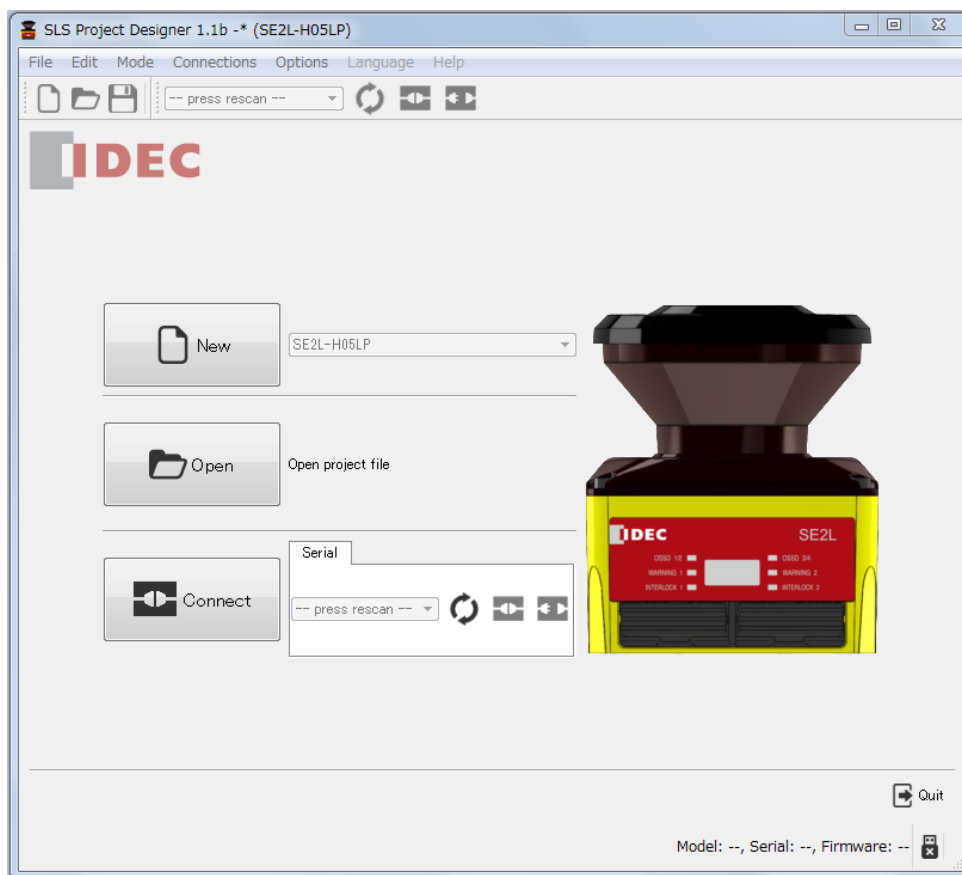

Figure 7-16 Main window
a) Main window as shown in figure 7-16 will be displayed when SLS Project Designer starts.